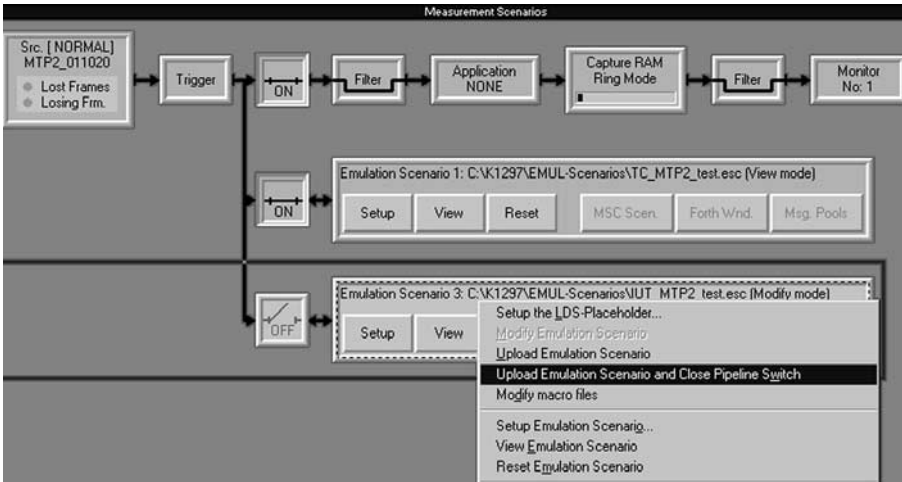

Figure 4: Context menu with *Upload Emulation Scenario and Close Pipeline Switch*
2. Upload the emulation scenario and close the pipeline switch for the emulation scenario branches: first for the Test Center branch, then for the Item under Test branch (see figure 4).